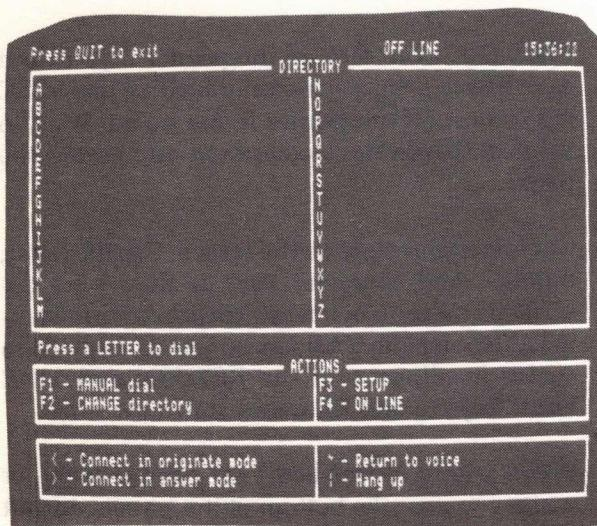

Figure 3-4
- Press the HELP key and the Main Menu will display with a status line (OFF LINE/ON LINE and other information), a clock, a directory, and a number of Actions, as shown in Figure 3-4.